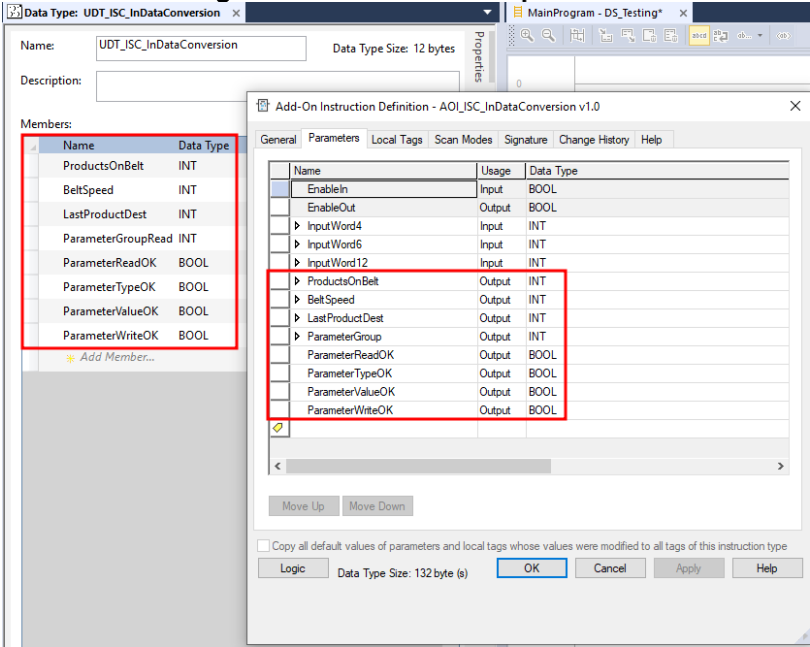

Figure 41: UDT Input to Match AOI
33. The data types match the AOI parameters, Figure 41 & 42.